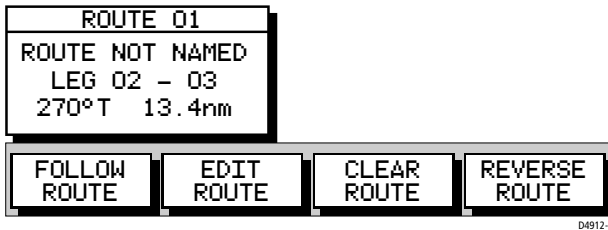

Figure 3-38: Route Leg Data Box and Soft Keys
- To display information about a route leg, move the cursor over the leg until the letters RTE appear. The Route Leg data box is displayed, together with the Follow Route soft keys as shown in *Figure 3-38*.
The Route soft keys are displayed as shown in *Figure 3-38*.
1. Move the cursor over the route leg into which a waypoint is to be inserted; the letters **RTE** appear and the Route Leg Data Box and Route soft keys are displayed, see *Figure 3-38*.